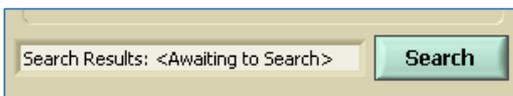

Figure 1.5-1: The **Search** button
1. Click the **Search** button located on the **DQCsys Client Setup** window. A message will indicate the success of the search and how much was found. (Figure 1.5-1)